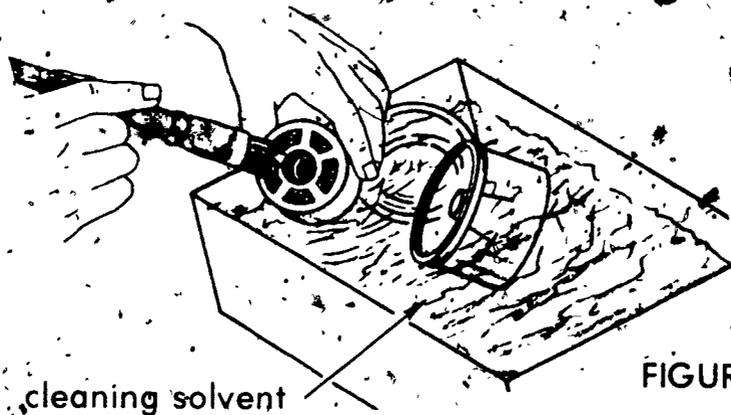

FIGURE 5
- b. Rinse air strainer and parts in clean solvent (Figure 5)